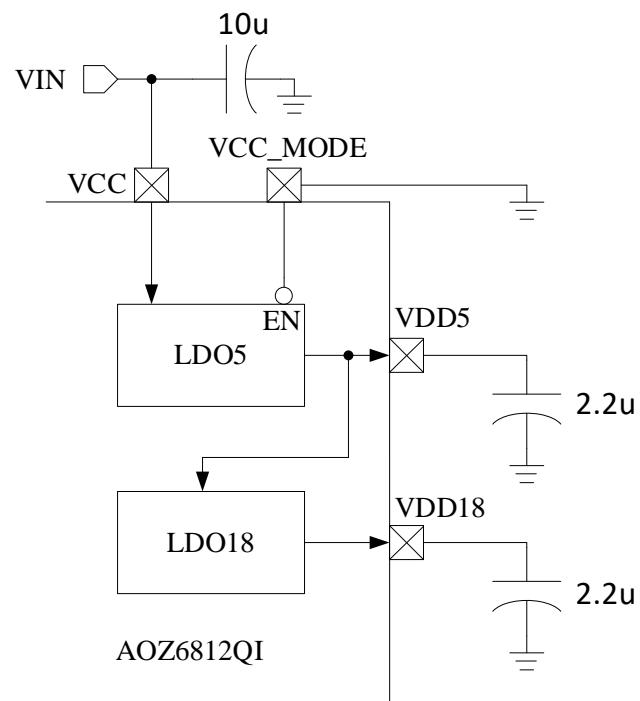

Figure 31-2 High-voltage Single-power Supply Mode
- High-voltage Single-power Supply Mode: VCC\_MODE = 0 and VCC = 5 ~ 24V. See Figure 31-2 for details.